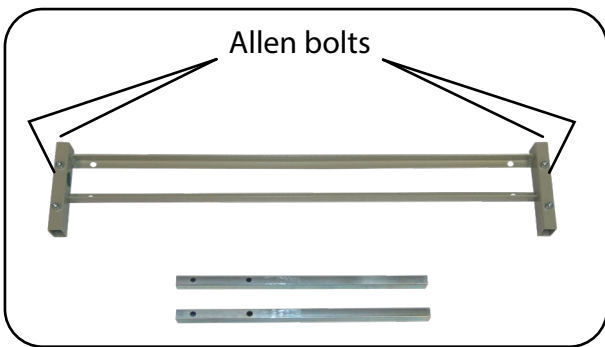

Fig. 6.6.01 – Bed extension for metal mesh
- 1x bed extension, foot end, metal mesh or sprung slats (Fig. 6.6.01)
- 2x extension tubes, long (Fig. 6.6.01)
- 4x M8 x 45 Allen bolts, installed in bed extension (Fig. 6.6.01)
1. Remove the four Allen bolts from the bed extension (Fig. 6.6.01).